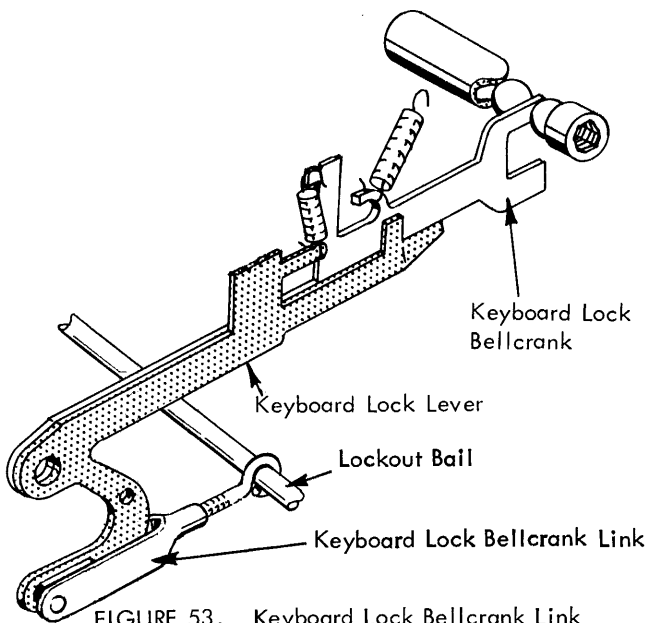

FIGURE 53. Keyboard Lock Bellcrank Link
4. Keyboard Lock Bellcrank Link - Adjust the link so that the bellcrank is fully bottomed in the selector compensator without choking off the action of the lockout bail (Fig. 53).